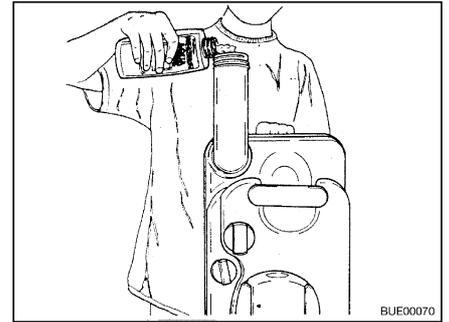

Fig. 294 Filling with sanitary liquid
- Fill the stated amount of sanitary liquid into the sewage tank (Fig. 294).